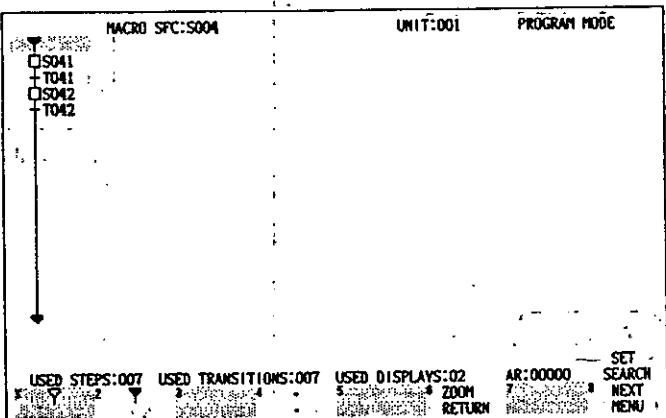

Fig. 6.39
- If a macro step is used in Fig. 6.39, continue operation with **ZOOM UP** key.
(2) NUMBER ENTRY DISPLAY